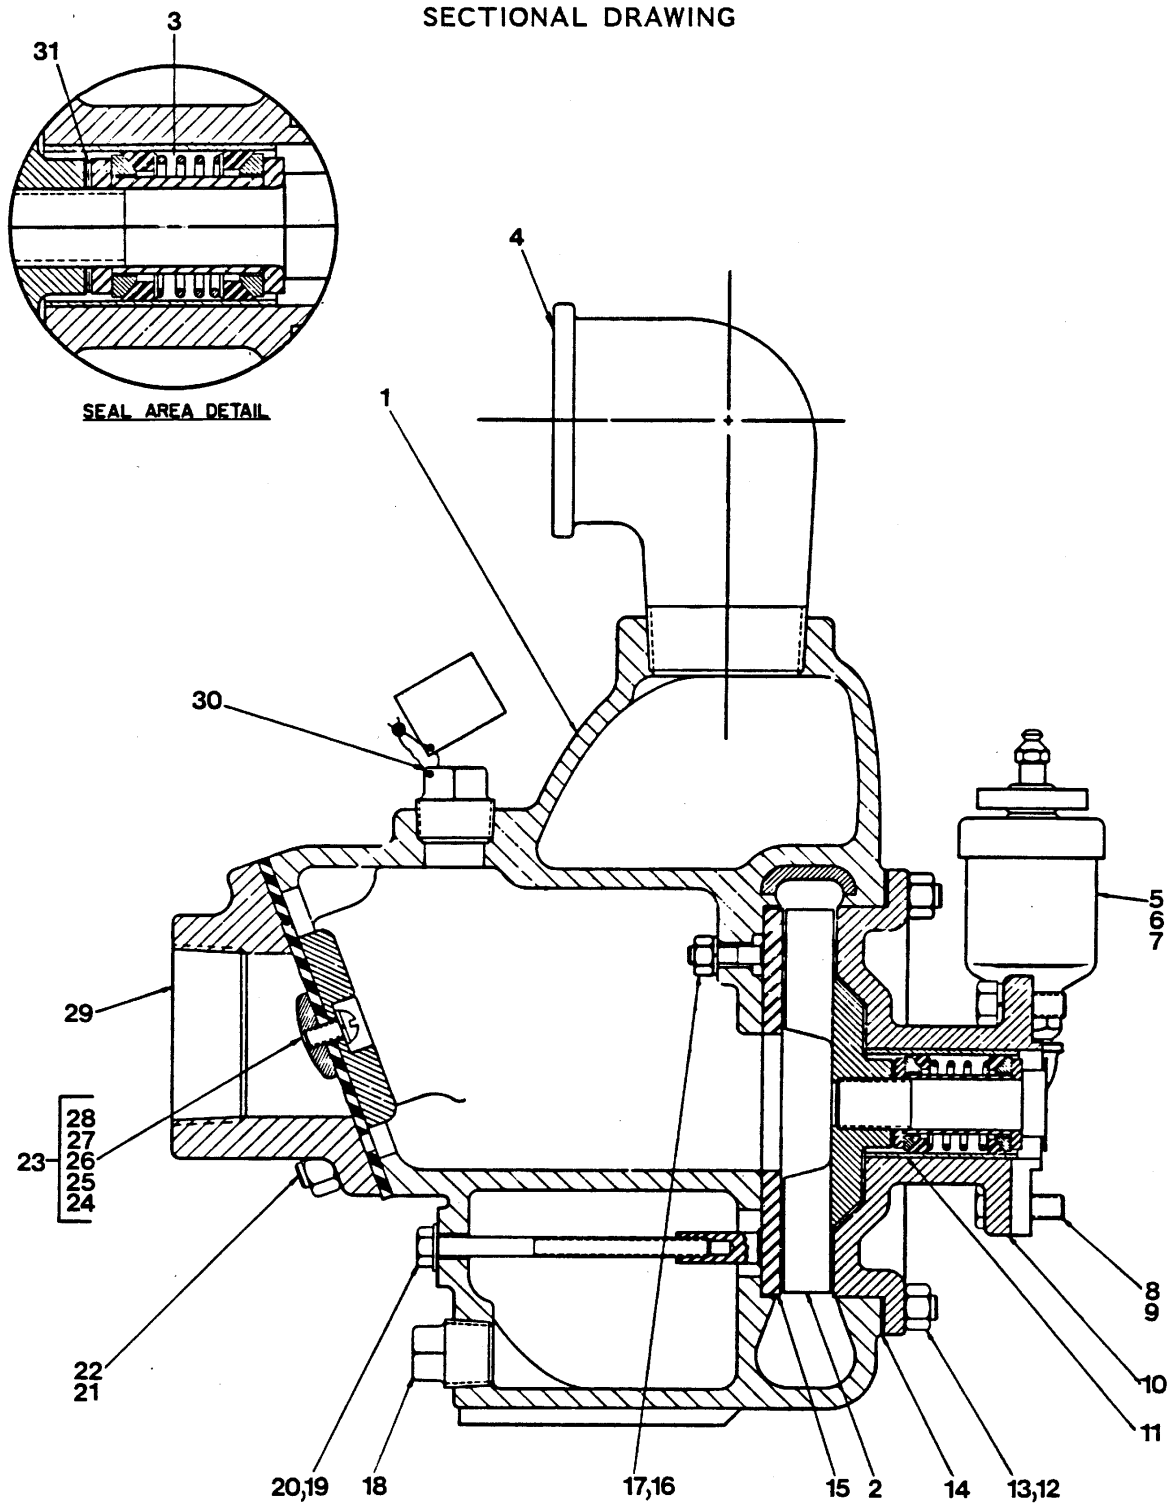

Figure 2. Pump End Assembly 82D
**(Figure 2)**
**Seal Removal****(Figure 2)**
**Seal Installation****(Figures 2 and 3)**